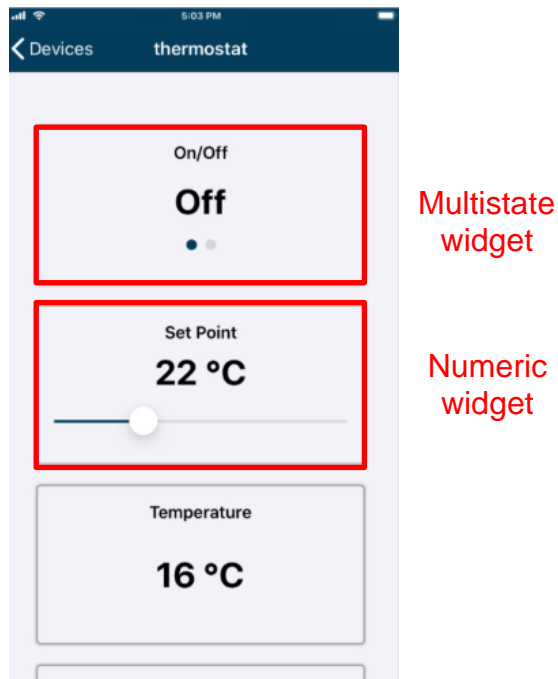

Figure 4.2 Widgets view.
The devices are managed through the corresponding widgets (See Figure 4.2). Clicking on a device it will be selected and the configured widgets will be shown (See Figure 4.2).
- **Numeric:** This widget contains a number as a value, for example the set point of a thermostat. To control it click on “-” or “+” icons. It can also be done by tapping on the widget, then a pop-up will raise (See Figure 4.2). So, the value can be changed sliding the button of the bar.